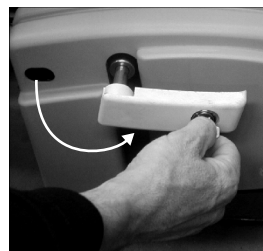

Fig.3
- 2) Turn the handle 180°, thus releasing the actuator (Fig. 3).